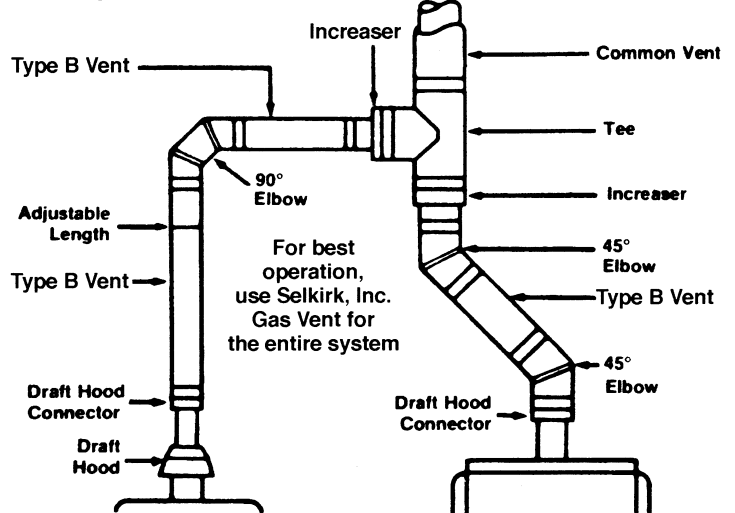

FIG. 3
Selkirk, Inc. Gas Vent pipe meets all building code and safety standards for use as gas appliance vent connectors. (See Fig. 3). Correct selection of connector and vent size is detailed in the Selkirk Metalbestos Gas Vent and Chimney Sizing Handbook, the "National Fuel Gas Code" (NFPA54), and local/regional codes.
8. USE OF GAS VENT FITTINGS (See Figs. 3 & 7.)